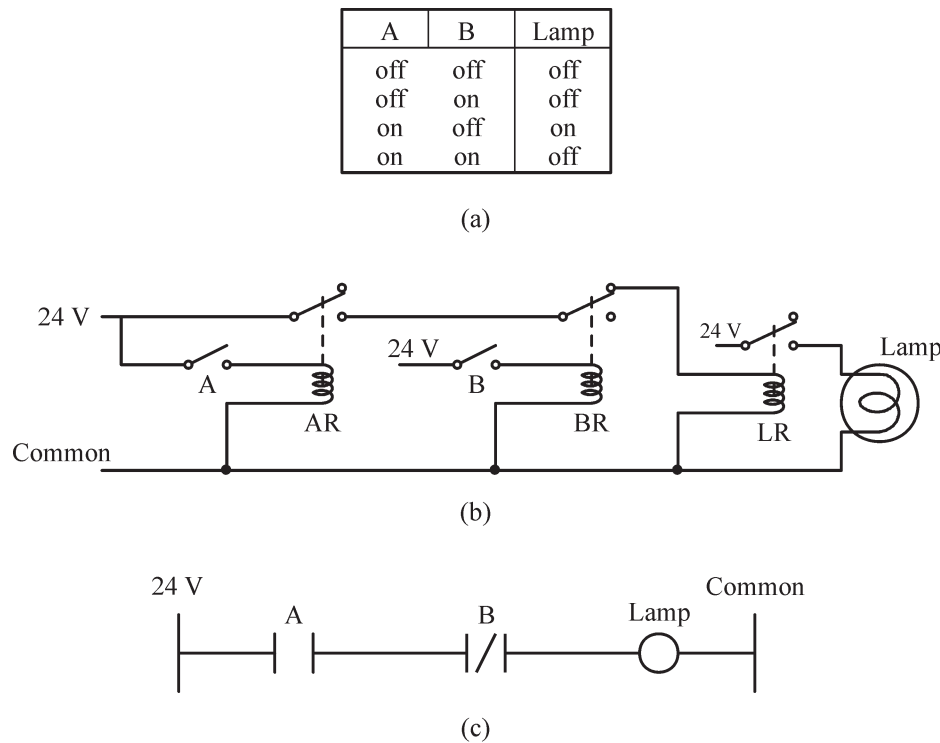

Figure 2.6. NOT function ladder logic circuits; (a) truth table; (b) equivalent relay circuit; (c) equivalent PLC ladder logic.
Solution. Figure 2.6 shows the truth table, relay implementation and ladder logic for this example. The only difference between the relay implementation in Figure 2.6b and Figure 2.5a is the wiring of the relay BR contacts. The logical NOT for switch B is accomplished with the normally closed (NC) contact of relay BR. The PLC ladder logic rung in Figure 2.6c is different from Figure 2.5c only in the second contact symbol. The PLC ladder logic is interpreted as: “When input (switch) A is **on** (closed) and input (switch) B is **off** (open) then the lamp is **on**.” This particular example is impossible to implement with a combination of only two normally open switches and no relays.